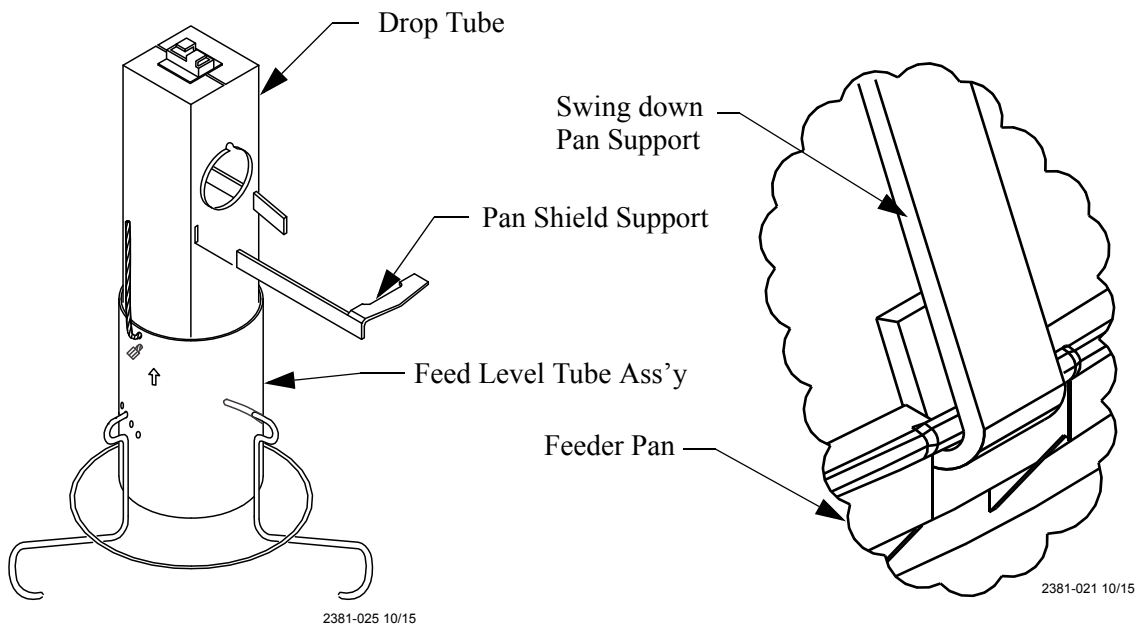

Figure 27. Drop Tube Installation
5. Insert drop tube into feed level tube assembly, see **figure 27**. Install the pan shield supports in the slots in the drop tube.